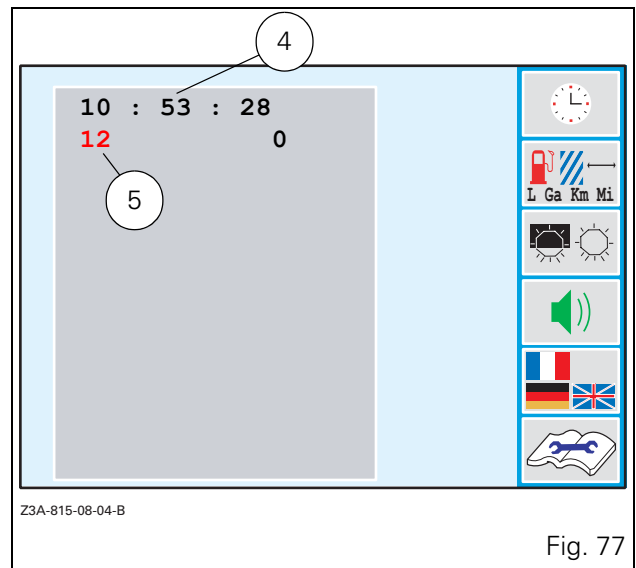

Fig. 77
- Press the key \ll_1 , (the window (Fig. 77) is displayed). The current hours, minutes and seconds are displayed in black (4). The red hour display (5) indicates that these can be set.